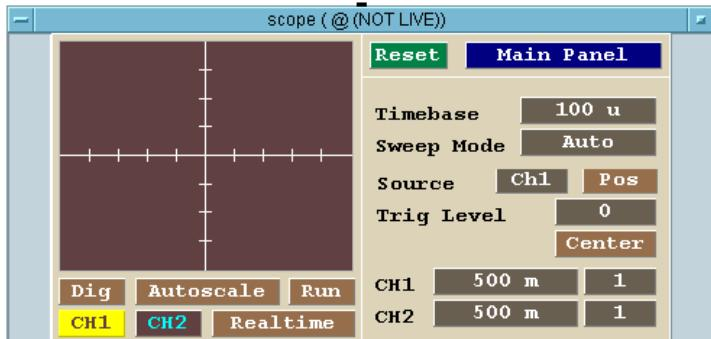

Figure 3-11. Selecting scope(@(NOT LIVE))
3. Place the outline of the scope panel and click to place it. The display should look similar to Figure 3-11.